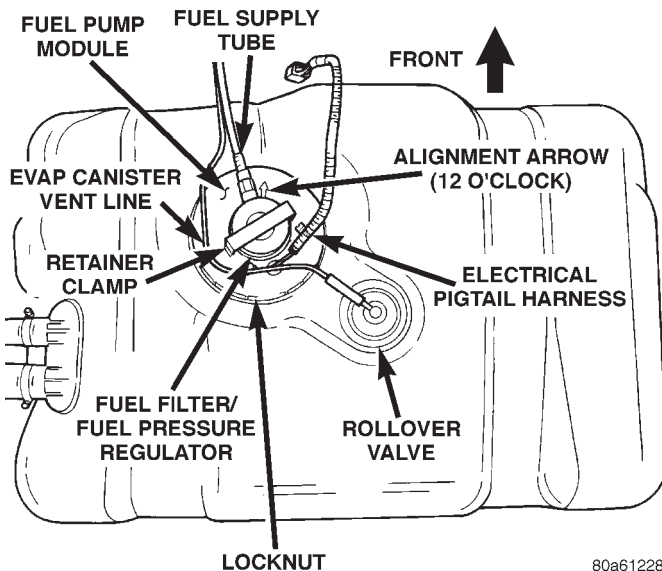
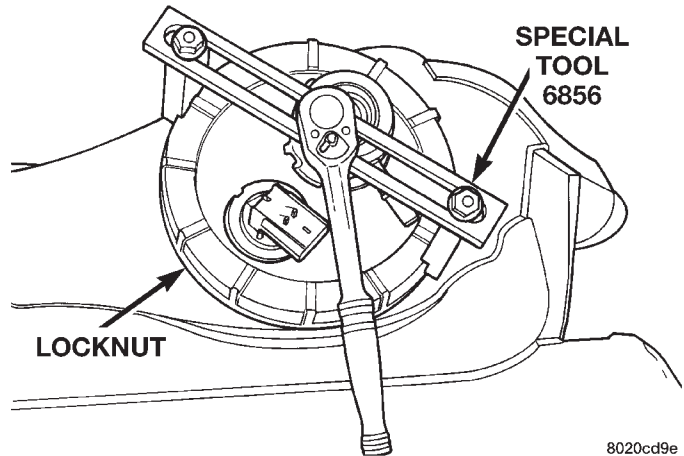

Fig. 25 Top View of Fuel Tank and Fuel Pump Module
Fig. 26 Locknut Removal/Installation—Typical
(1) Drain fuel tank and remove tank. Refer to the Fuel Tank Removal/Installation section of this group.
(2) Thoroughly wash and clean area around pump module to prevent contaminants from entering tank.
(3) The plastic fuel pump module locknut is threaded onto fuel tank (Fig. 25). Install Special Tool 6856 to fuel pump module locknut and remove locknut (Fig. 26). The fuel pump module will spring up when locknut is removed.
(4) Remove module from fuel tank.